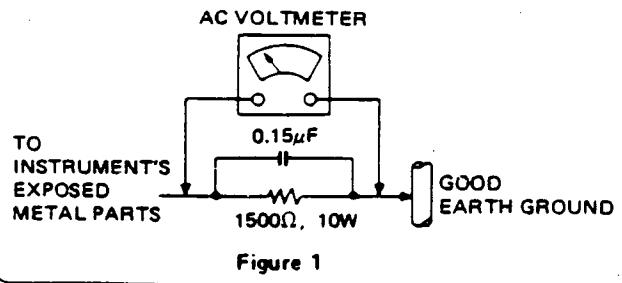

Figure 1
LEAKAGE CURRENT COLD CHECK (See figure 1.)
LEAKAGE CURRENT HOT CHECK (See Figure 1.)
2. Connect a $1.5\text{ k}\Omega$, 10 watts resistor, in parallel with a $0.15\text{ }\mu\text{F}$ capacitor, between each exposed metallic part on the set and a good earth ground such as a water pipe, as shown in figure 1.